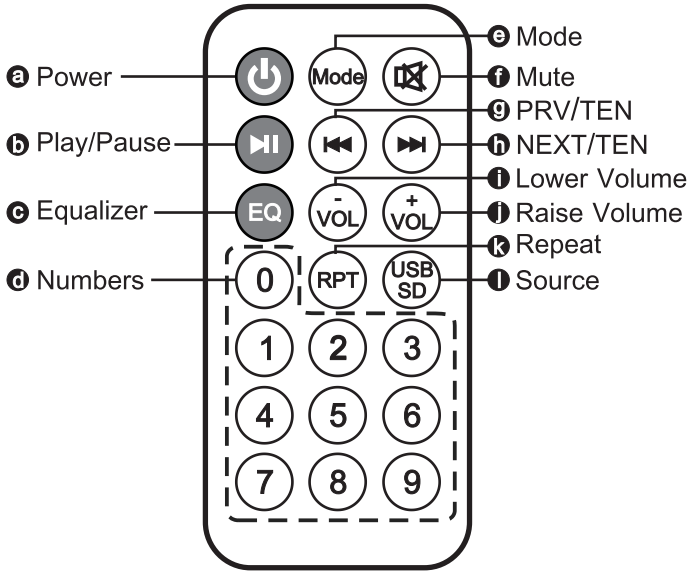

Fig. 29
3. USB Remote Controls and Indicators, Fig. 29: